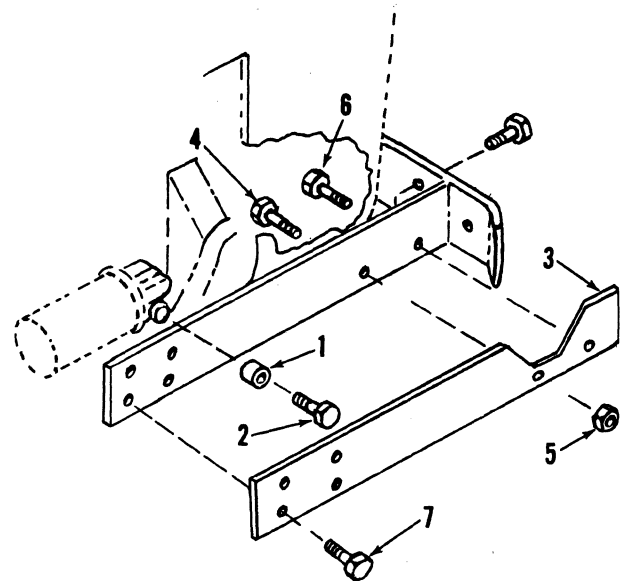
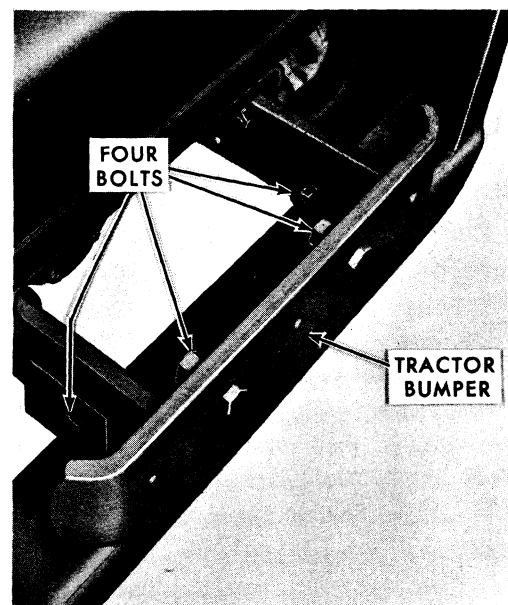

Figure 17
Figure 18
2. Replace the metric cap screw in the oil filter bracket with the spacer bushing, (1) Figure 17, and the metric cap screw, (2)
3. Mount the reinforcement plate as shown in Figure 17, to the tractor bumper. Secure the plate except for bolt, (6) Figure 17.
4. Install the front mounting assembly to the tractor bumper, Figure 18, at the front with two 5/8" x 1-1/2" NC cap screws, lockwashers and nuts. Secure the sides and the reinforcement plates with the previously omitted bolts, (6) Figure 17, to the tractor bumper.